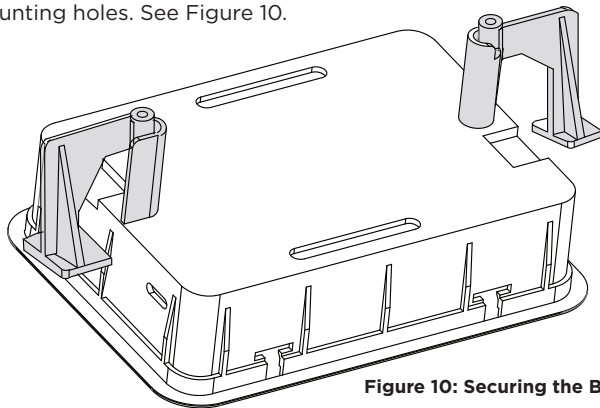

Figure 10: Securing the Backbox
**Pro Tip:** In some installations, it may be necessary to secure the backbox to a wall stud. To do this, place the backbox in the wall space you created and secure it to the wall stud by using the side mounting holes. See Figure 10.